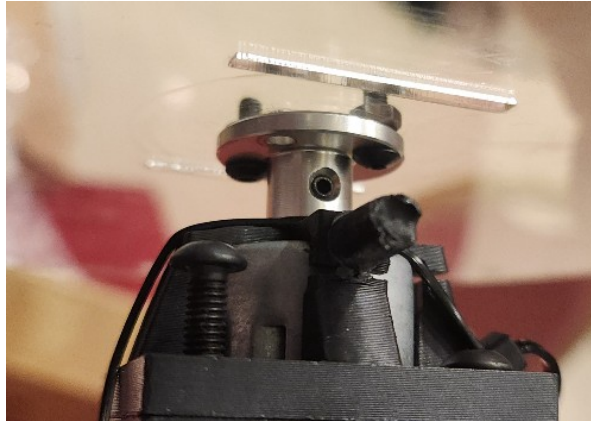

Figure 6
- 3) The coupler then can install on the motor shaft and lock using the lock screw from side as shown in Figure 6.